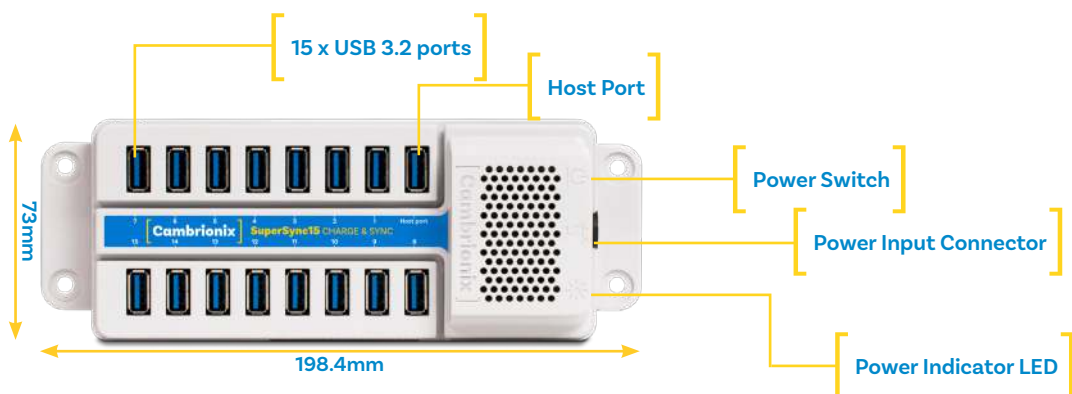

Figure 1
- The SuperSync15 unit (see Figure 1 below)